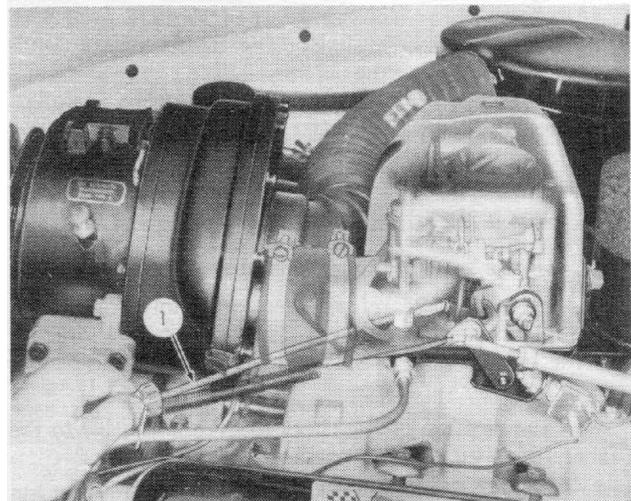

Fig. 16
2. Use a flexible shank screwdriver and turn idle mixture adjustment screws as required to obtain a smooth idle. (See Fig. 16.)